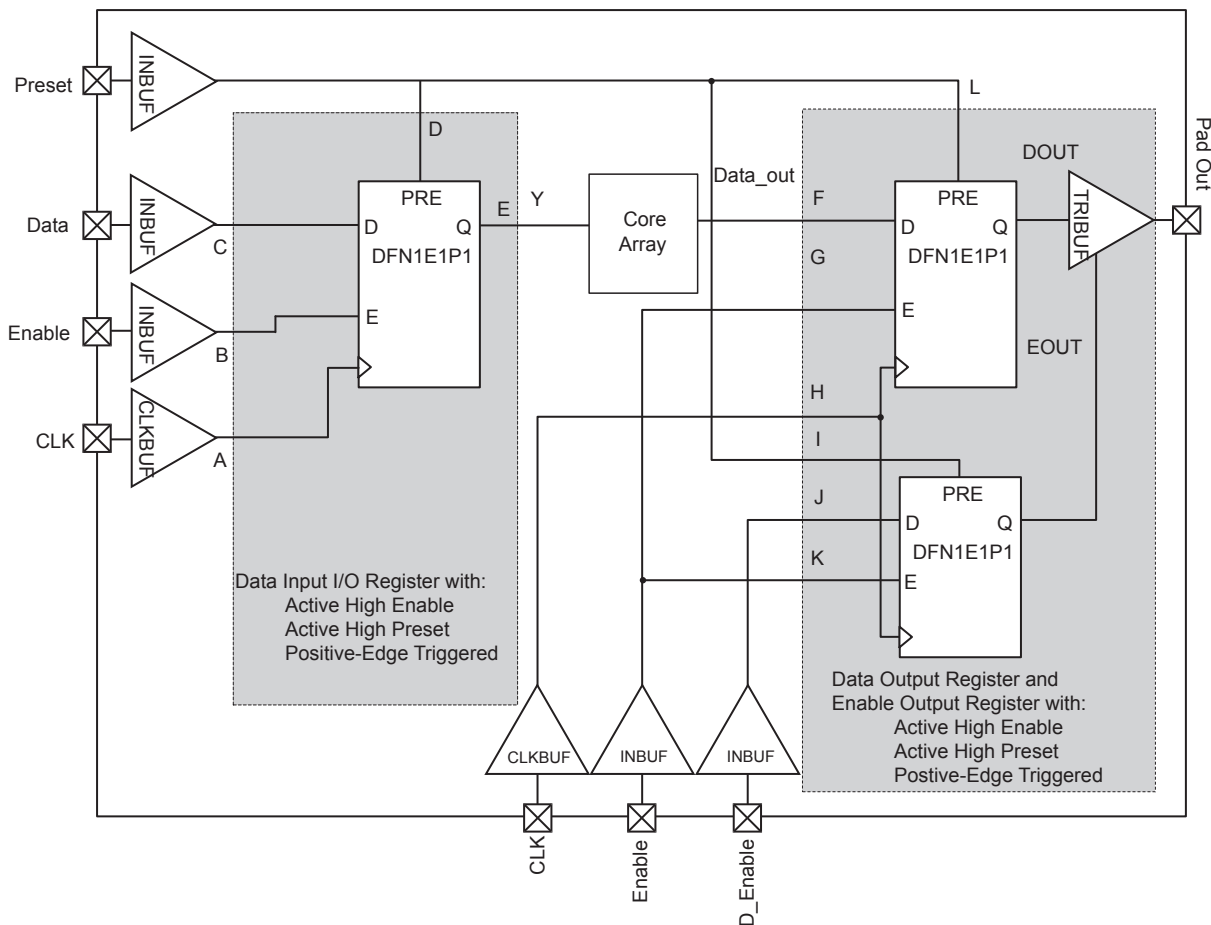

Figure 2-15 • Timing Model of Registered I/O Buffers with Synchronous Enable and Asynchronous Preset
* See Figure 2-15 on page 2-45 for more information.